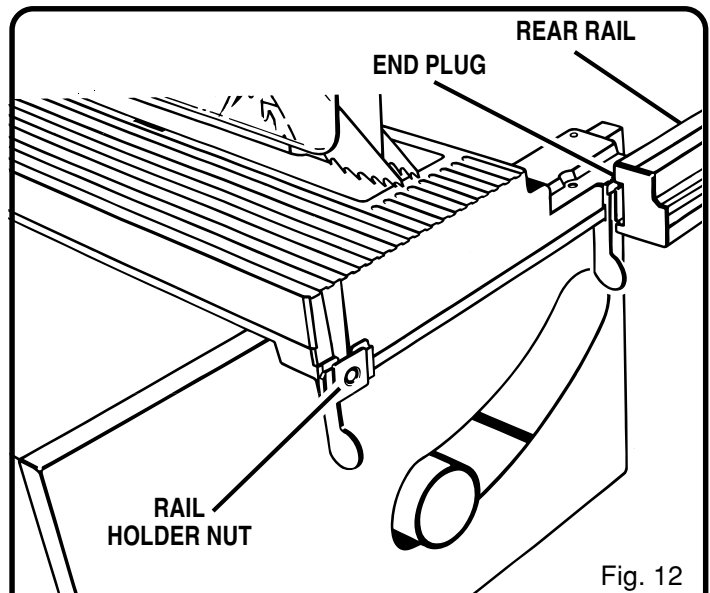

Fig. 12
- Mount the rear rail, following the same clamping procedure as shown for the front rail. Orient the rear rail as shown in Figure 12.